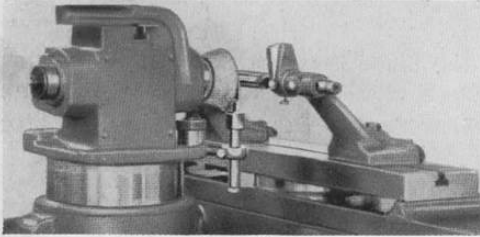

Fig. 39
**SECOND OPERATION—Grinding the Secondary Clearance (Fig. 39)**